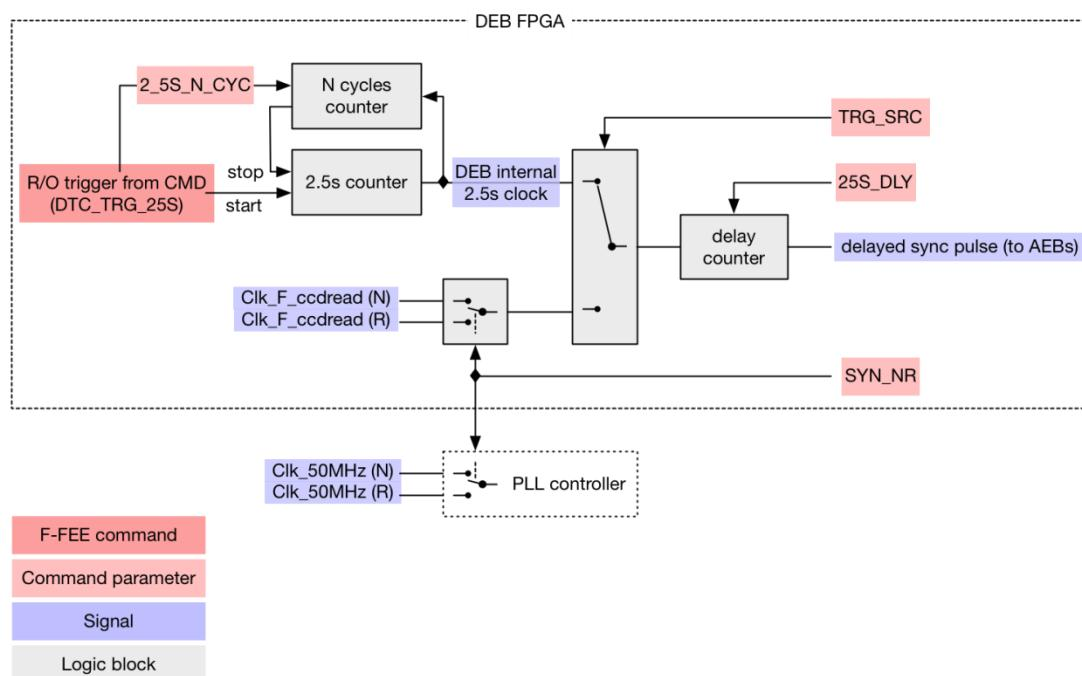

Figure 7-9 - 2.5s sync pulse source selection & generation
Clk_F_ccdread(R) signals. When set to internal the DEB is driving this pulse from the FPGA-internal 2.5s counter. Refer to Figure 7-9 for an overview of the 2.5s synchronisation pulse selection and generation.
This register sets the content is the SYN_NR register. As shown in Figure 7-9 the content of this register selects the external synchronisation signal source either to Clk_F_ccdread(N) or Clk_F_ccdread(R).
This register sets the content of the 25S_DLY register. The content of this register defines the delay that as to be added to the input synchronisation pulse before transmission to the AEBs. Refer to Figure 7-9 for an overview of the 2.5s synchronisation pulse selection and generation. According to the diagram, the delay is effective whatever the source of 2.5s synchronisation signal.